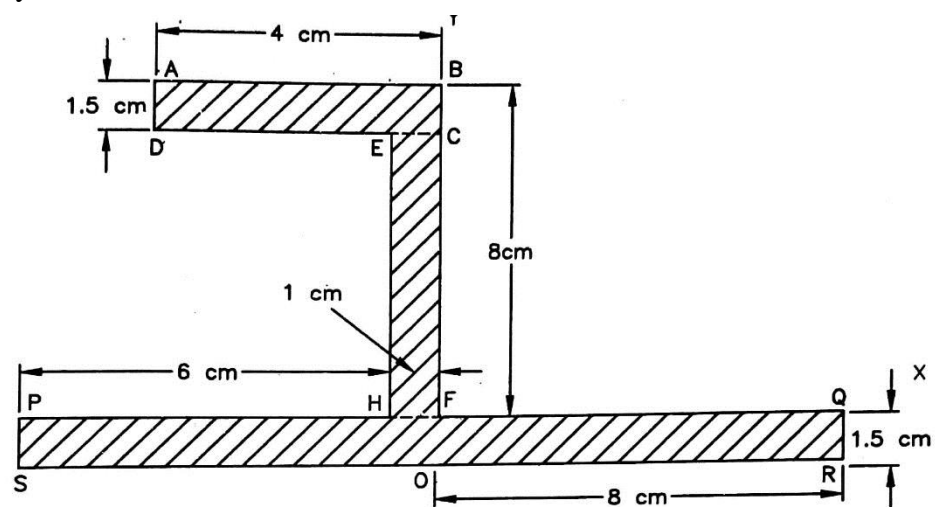

Fig.20
10. Find the center of gravity of the shaded area shown in below Fig.20 with reference to X-Y co-ordinate system [10 M]